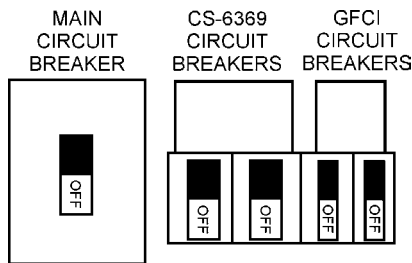

Figure 36. Main, Aux. and GFCI Circuit Breakers (OFF)
1. Place the **main, G.F.C.I., and aux.** circuit breakers (Figure 36) in the **OFF** position prior to starting the engine.